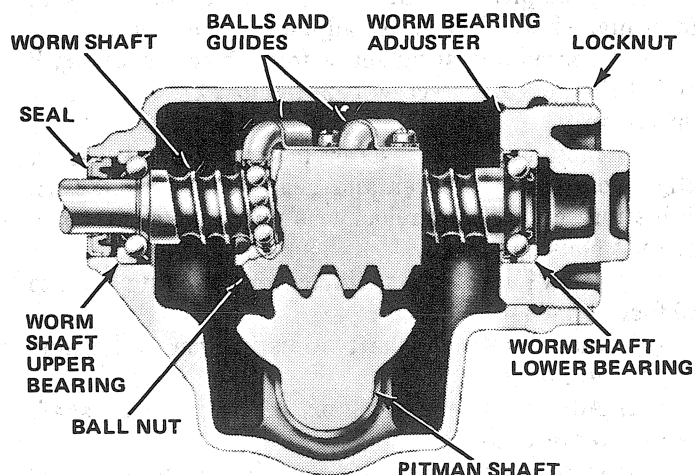

Fig. 2K-1 Recirculating Ball Manual Steering Gear
The manual steering gear used on Jeep vehicles is a recirculating ball design (fig. 2K-1). The steering gear wormshaft and ball nut are in line with the steering shaft in the column. Steering ratio of this unit is 24:1.
- (1) Raise vehicle and remove crossmember cover, if equipped.
- (2) Check and correct steering gear mounting bolt torque if necessary.
- (3) Mark pitman arm and steering gear pitman shaft for assembly reference.
- (4) Remove pitman arm nut and remove pitman arm using Puller J-6632 (fig. 2K-2).
- (5) Loosen pitman adjusting screw locknut and back off adjusting screw 2 or 3 turns.
- (6) Remove horn button and cover.
- (7) Slowly turn steering wheel in one direction until stopped by gear; then turn wheel back 1/2 turn.